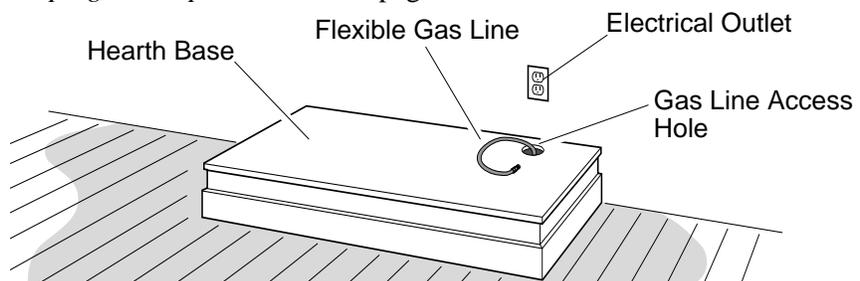

Figure 9 - Placing Hearth Base Accessory Against Wall
5. Place hearth base accessory against wall at installation location. Cut an access hole in hearth base top to run flexible gas line to fireplace (see Figure 9). Make sure to locate access hole so cabinet mantel will cover it when installed. **Note:** You can secure base to floor using wood screws. Countersink screw heads and putty over.